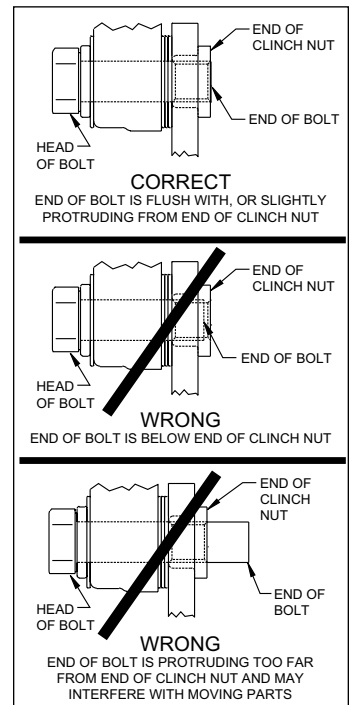

Figure 5. Clinch Nut Engagement Diagram
CAUTION: All mounting bolts must fully engage clinch nuts. Be sure to check that all bolts are either flush or protruding through flanged side of clinch nut after shimming, Figure 5.
- Temporarily tighten the caliper mounting bolts and view the rotor (4) through the top opening of the caliper. The rotor should be centered in the caliper, Photo 7. If not, adjust by adding or subtracting shims between the bracket and the caliper. Always use the same amount of shims on each of the two mounting bolts. **NOTE:** The end of each bolt must be flush with or slightly protruding from the head of the clinch nut, as shown in Figure 5. If necessary place spare shims between washer (6) and caliper mounting ear to achieve the proper clinch nut engagement. Once the caliper alignment and clinch nut engagement are correct, remove the bolts one at a time, apply red *Loctite*® 271 to bolt threads, and torque to 40 ft-lb.